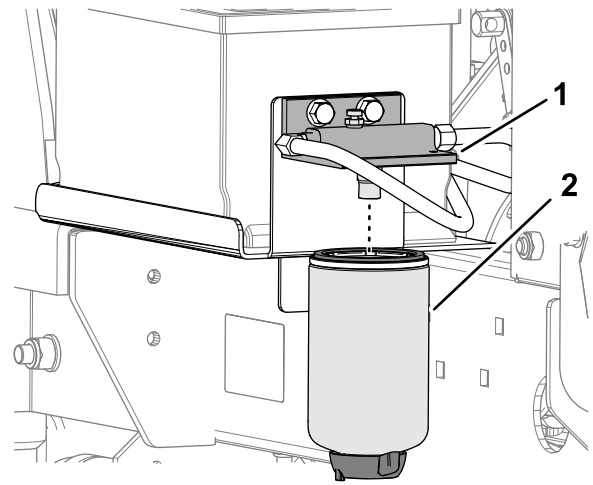

Figure 69
3. Place a clean container under the fuel filter canister (Figure 69).
7. Clean the area around the fuel filter and filter head (Figure 69).
8. Remove the filter canister and clean the filter head (Figure 69).